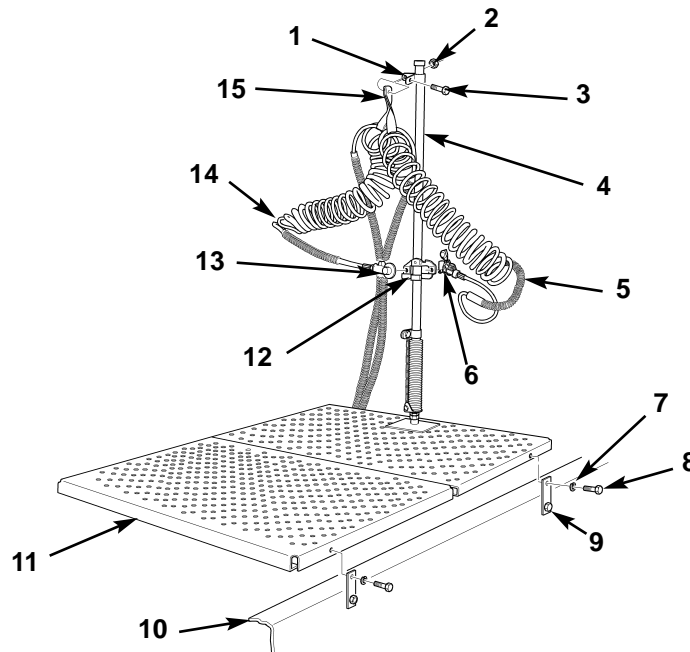

Figure 1. Disconnecting Air Hoses and Removing Service Deck.
1. Remove nut (figure 1, item 2), screw (figure 1, item 3), and strap (figure 1, item 15) from clamp (figure 1, item 1) on air hose tender (figure 1, item 4).
2. Disconnect emergency air pressure coupling (figure 1, item 13) and service air pressure coupling (figure 1, item 6) from storage brackets (figure 1, item 12) on air hose tender (figure 1, item 4) and set air hoses (figure 1, items 5 and 14) on spare tire carrier.
3. Remove four bolts (figure 1, item 8) and lockwashers (figure 1, item 7) from service deck assembly (figure 1, item 11) and four tabs (figure 1, item 9). Remove service deck assembly (figure 1, item 11) from tractor frame (figure 1, item 10).